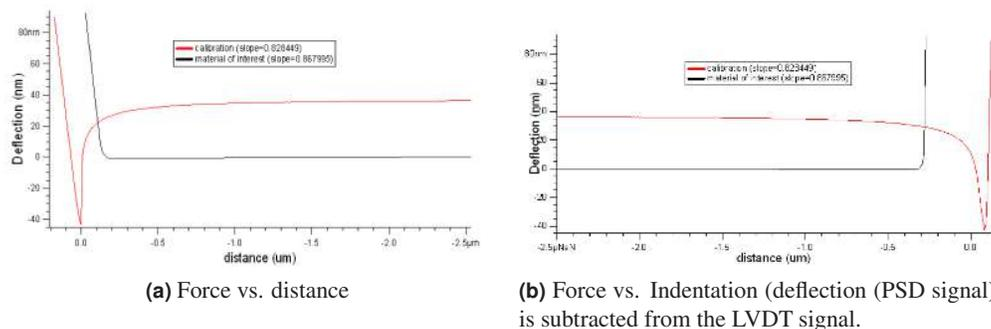

Figure 18.26.
- Choose the cantilever spring constant so that it can apply a load to the sample, rather than (fully) deflect with the load. This can be determined from the Force vs. Indentation plot: If the contact regime has a slope that goes to infinity, then the lever is likely fully deflecting under the load, rather than deforming the sample. Figure 18.26 on page 257 shows an example of this. In the left graph, it is not clear that the lever is fully deflecting. However, when force is plotted against indentation (or separation), the slope looks like a right angle to the free air (non-contact) portion of the curve, as shown in the right graph.